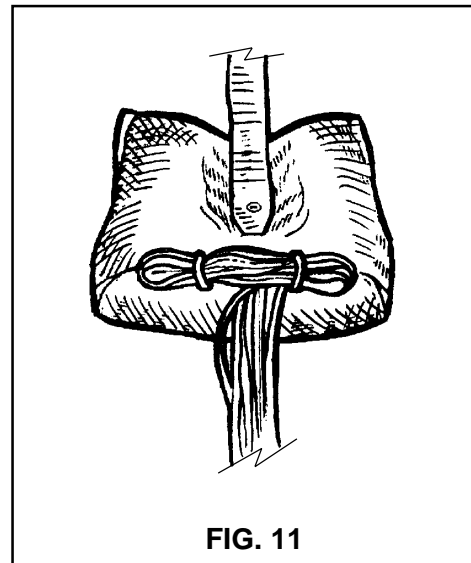

FIG. 11
11. Lock the mouth of the free bag by making two stows with the suspension lines in the "Safety Stow". (This is the loop made of 1/8" shock cord) (FIG 11). Javelin "Safety stow" must be used-use of any other may void TSO.